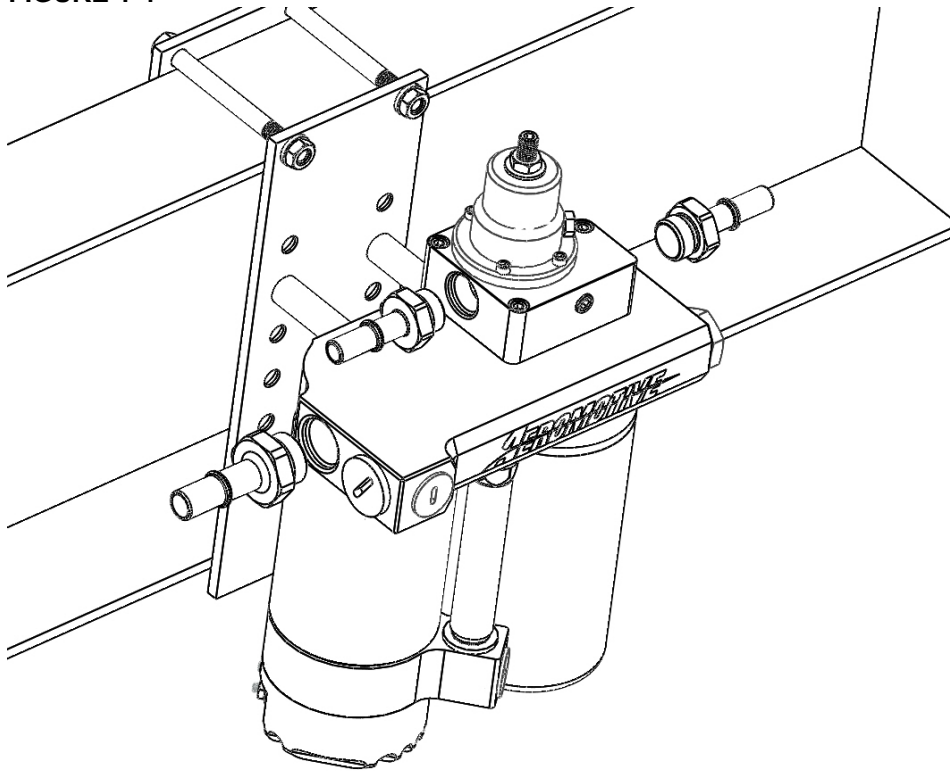

FIGURE 1-4
5. Screw the three port fittings into the pump. Ensure that the fitting have the o-rings installed on them. If not, do that at this time. **FIGURE 1-4**